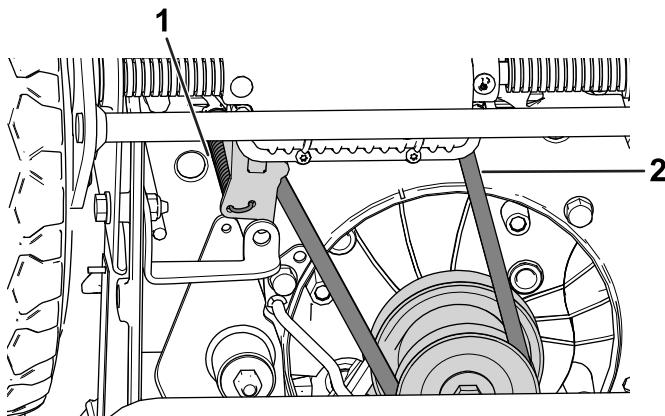

**Figure 18**
12. Attach 2 cable ties at the indicated locations shown in Figure 18.